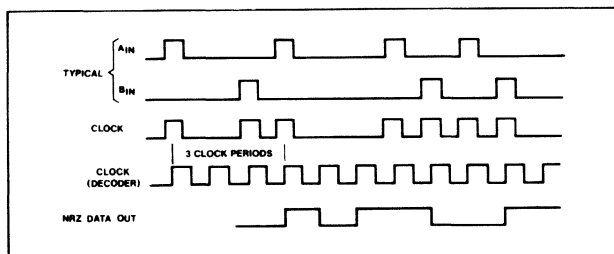

Fig. 4 Decode waveforms
- The decoded NRZ output is delayed by 3 clock periods from the HDB3 inputs (A_{in} , B_{in}) (Fig.4).